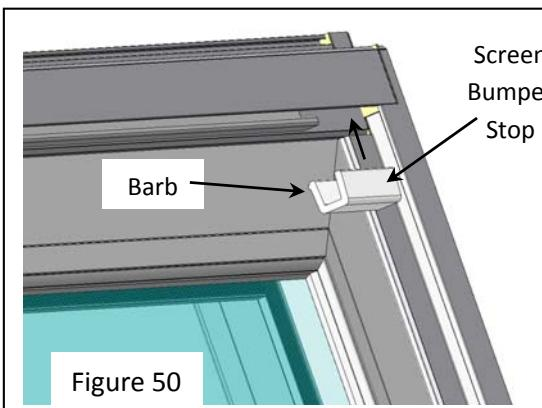

Figure 50
36) Install Screen Bumper Stops (located in the handle hardware box) into the screen track in the head at both ends of the frame as shown (Fig. 50). Be sure the barb on the stop is positioned toward the door panels. The stop should be positioned against the track wall in the side jamb. The heights of the screens might need adjusting. To adjust the height, loosen the two screws at the top of the screen on the interior, adjust in the slotted holes, and re-tighten (Fig. 51). The screens should glide smoothly while keeping the engagement of the bottom guides on the rib at the sill, but the guides should not rub on the fiberglass.